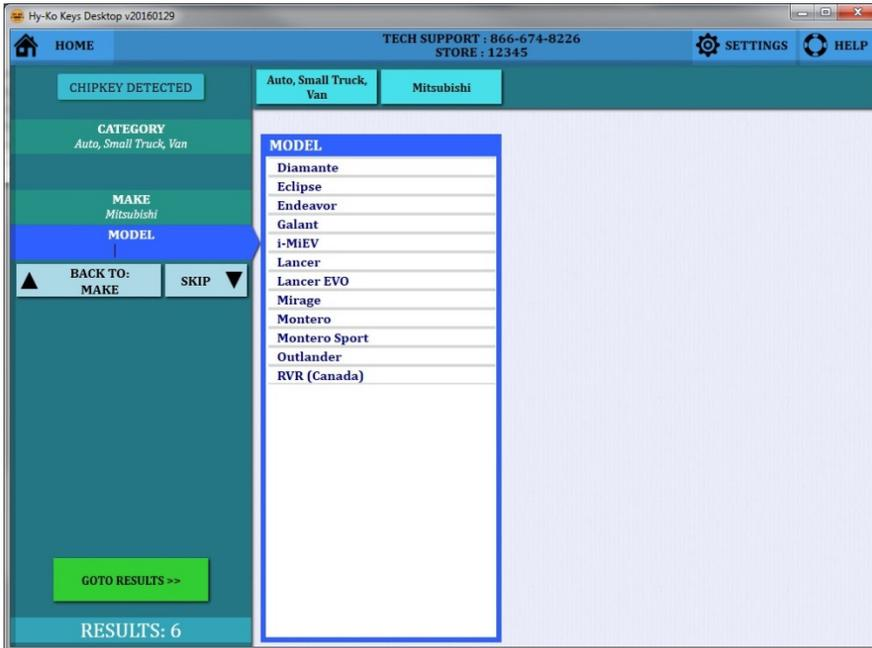

fig. 69
- Choose the Model by clicking on it from the list or by typing it in the 'MODEL' box on the left (see fig. 69).